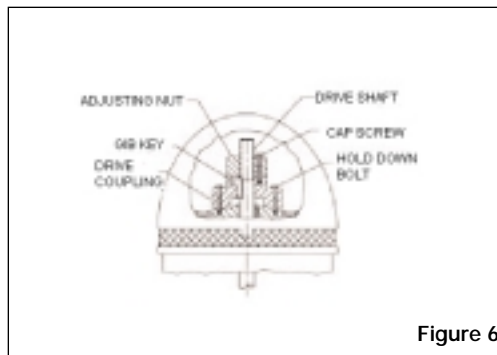

Figure 6
7. The driving mechanism of all hollow shaft drives is shown on Figure 6. The driveshaft (606) extends up through the quill or hollow shaft of the motor (or gear drive) and is held in place by an adjusting nut (604), which not only carries all the static and hydraulic thrust of the impellers and shaft but also provides the adjustment for the impeller clearances.
8. After lowering and orienting the motor and/or gear drive as explained above, remove the drive coupling and the hold down bolts as shown in Figure 6.